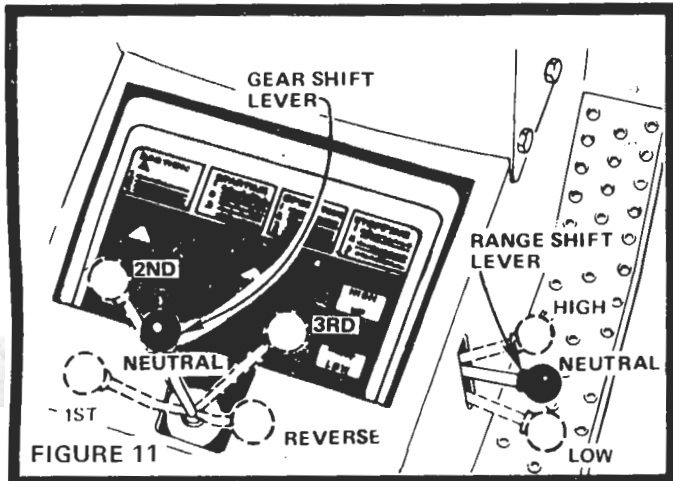

FIGURE 11
3. Place Gear Shift Lever in neutral "N" position (Fig. 11).
4. Move Range Shift Lever to "N" neutral position (Fig. 11).
3. Move Gear Shift Lever to "2ND" and Range Shift Lever to "LOW" (Fig. 11).
For pushing or towing your tractor, place Gear Shift Lever and Range Shift Lever in neutral position (Fig. 11). NOTE: DO NOT TOW YOUR TRACTOR FASTER THAN SIX MILES PER HOUR.